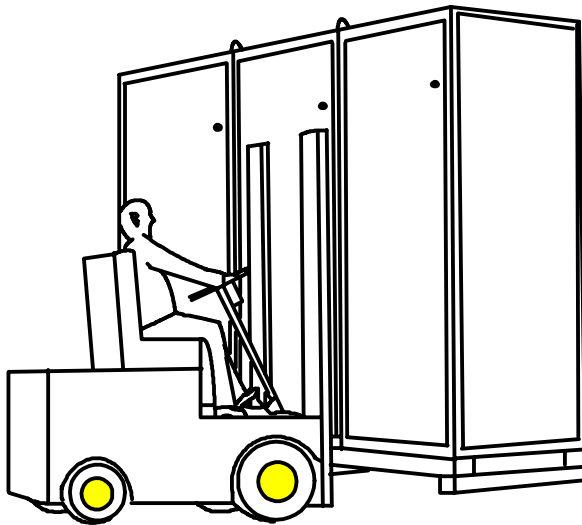
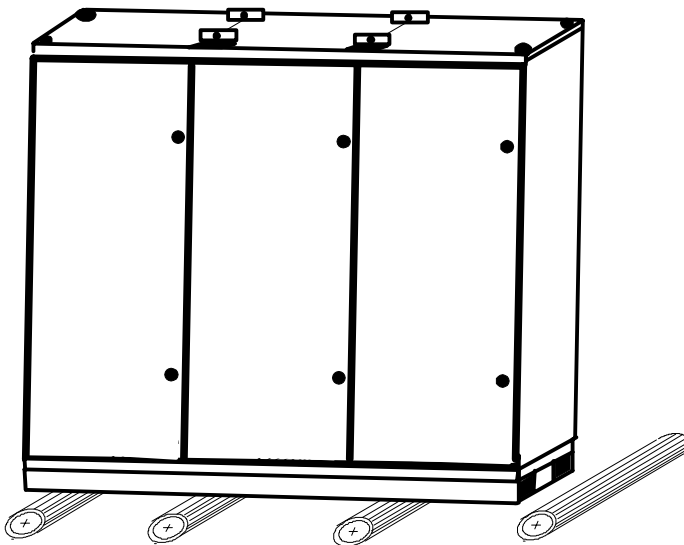

Fig. 6 Transport using a forklift truck
Fig. 7 Transport using round bars
- The cabinets can be transported over floors using forklift trucks (see Fig. 6), lifting and rolling devices or, if nothing else is available, on round bars (at least 4 round bars) (see Fig. 7).